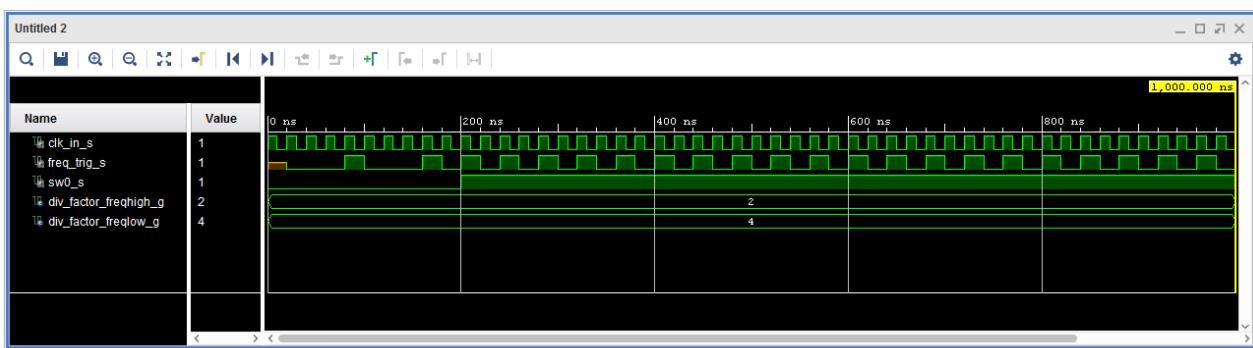

Figure 2.36: Simulation Results
7. Assuming no errors, your simulation result should look similar to the **Figure 2.36**.